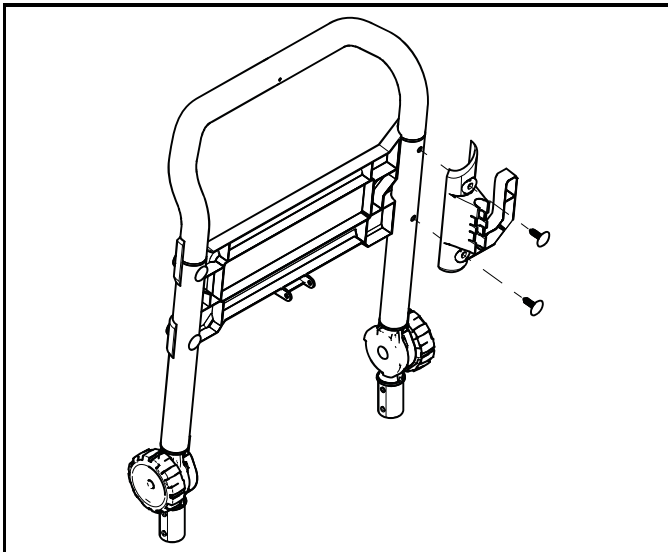

Figure 4-1. Attach Gun Hook to Handle Assembly
1. Install gun hook to handle assembly using the (2) supplied tree clips. Align holes and push the tree clips into holes until they sit flush with gun hook (Figure 4-1).